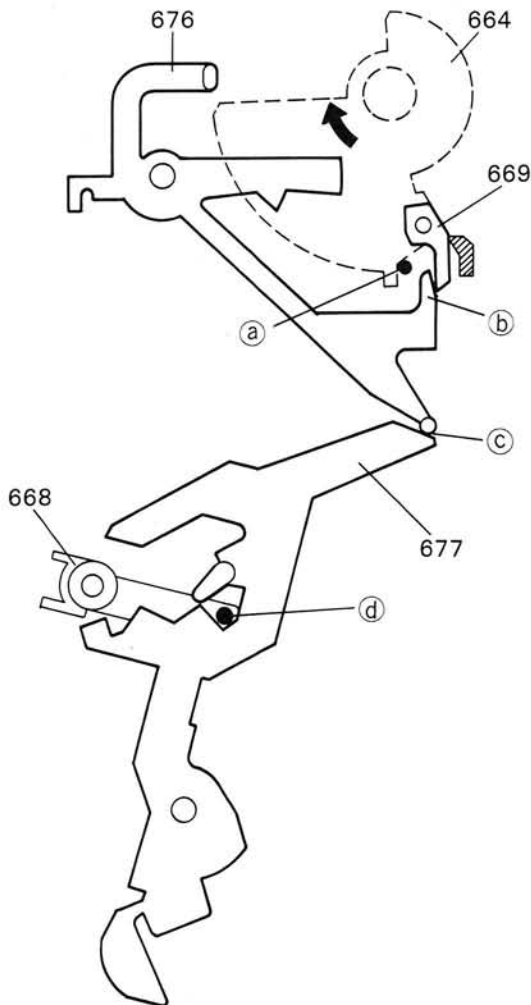

Fig. 1-1
The auto size cam (677) is fixed at the position shown in Fig. 1-1 by the boss (d) of the set lever (668).